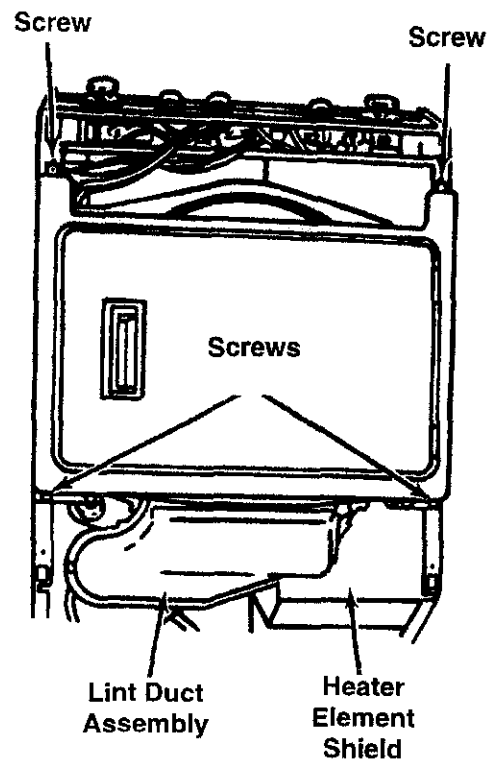

Fig. 24
5. Remove the top two (2) retaining screws.
6. Remove the bottom two (2) screws.
8. Remove the three (3) Dryer Lint Duct assembly retaining screws and remove the assembly. (Fig. 24)
9. Remove the four (4) heater element shield screws. (Fig. 24)